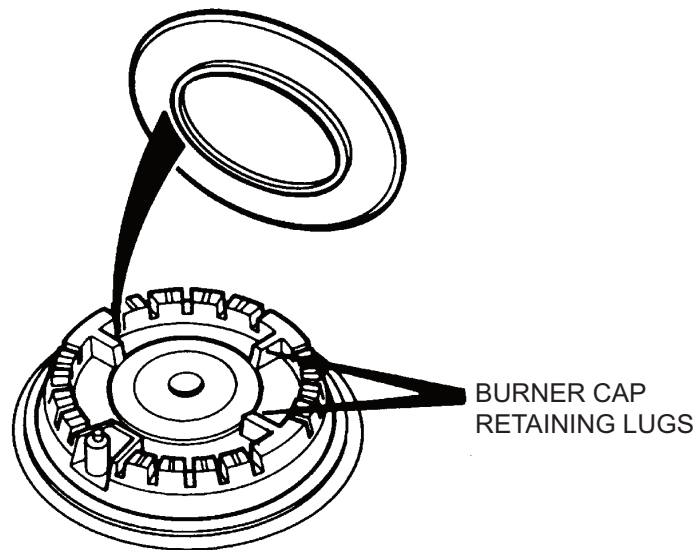

Fig. 15
7. Re-assemble in reverse order, ensuring burner heads and burner caps are correctly located and electrodes are not damaged. (See Figs 15, 15a, 15b).